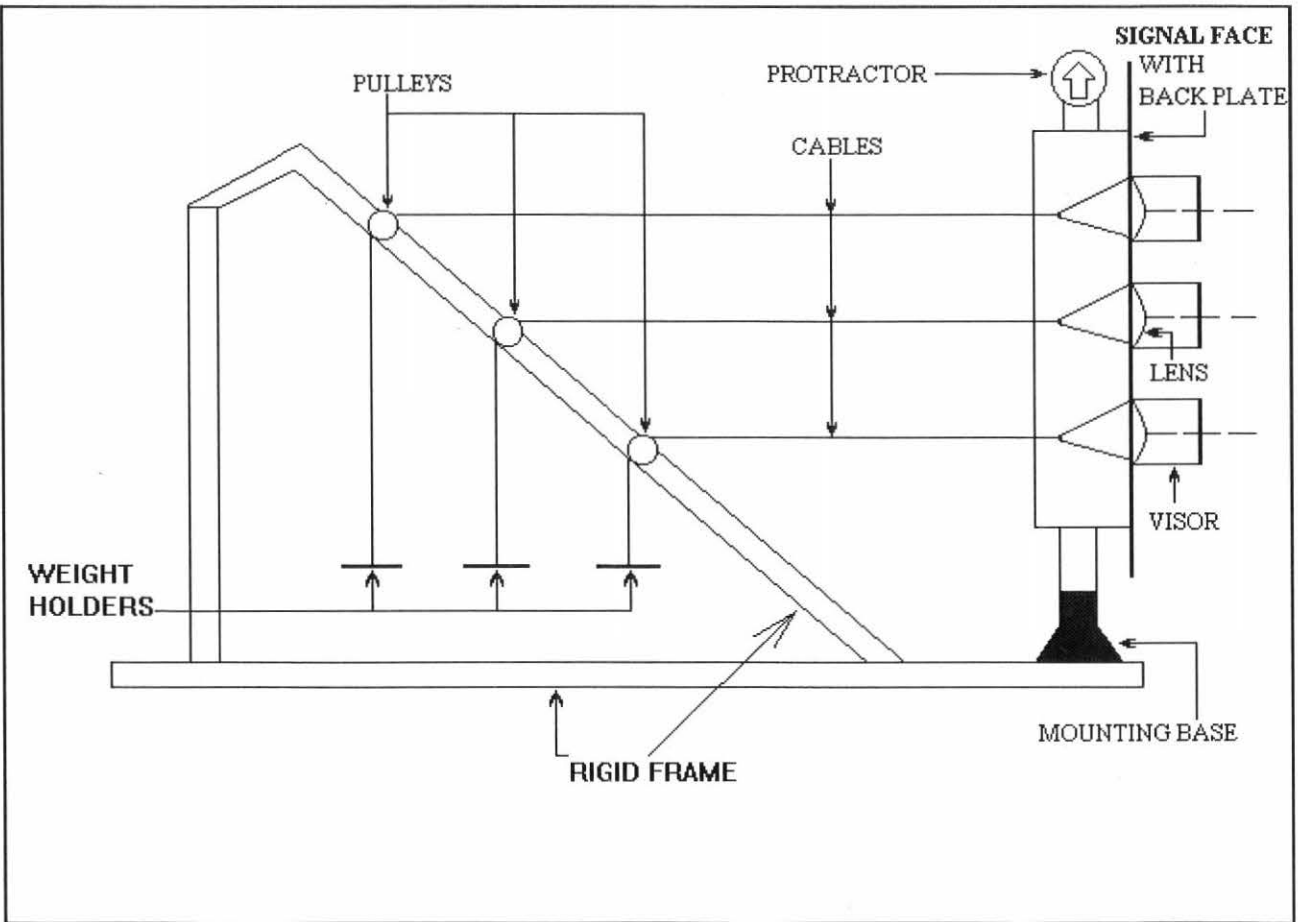
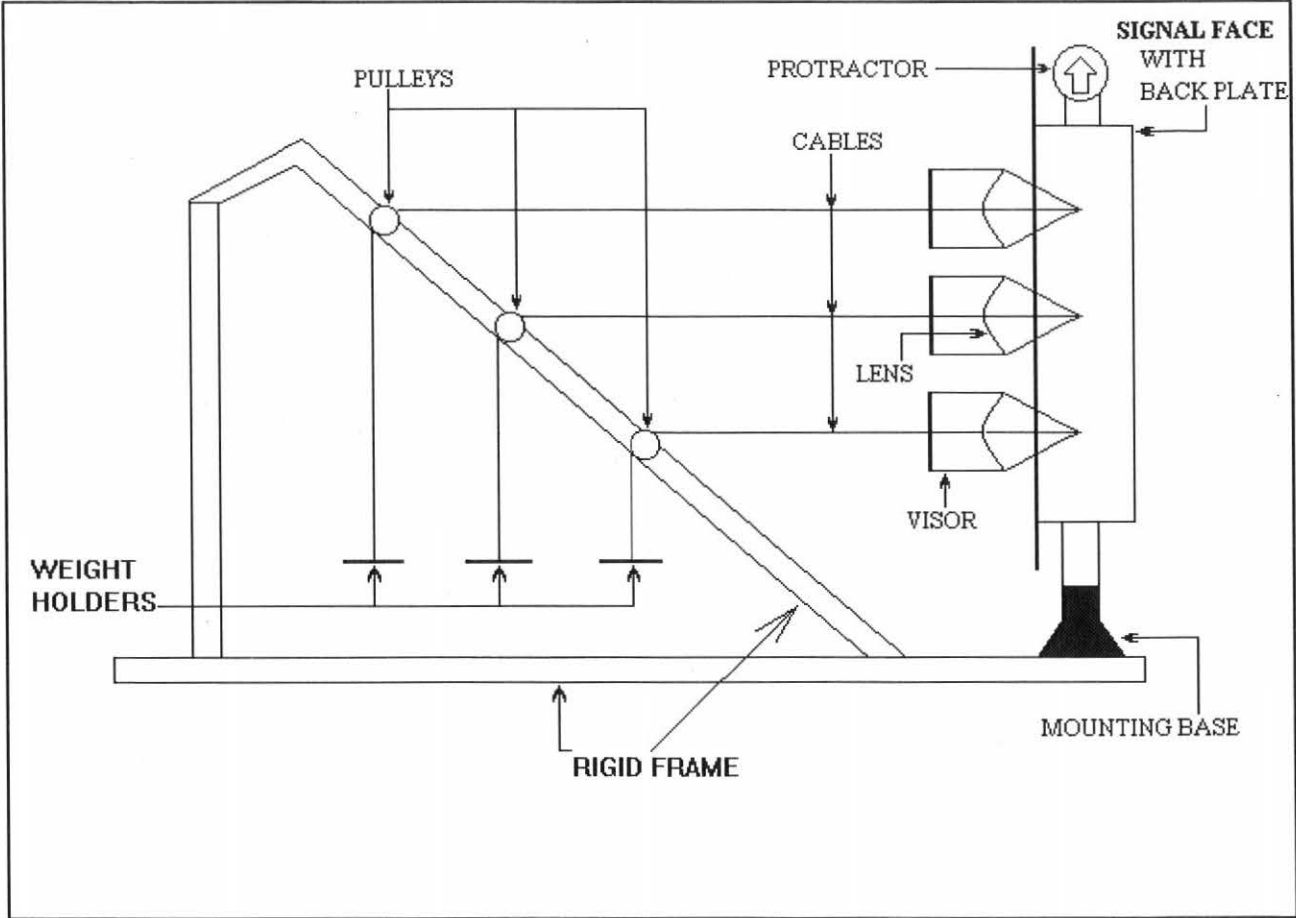

FIGURE 1. Loading Applied to Front of Signal Face
FIGURE 2. Loading Applied to Back of Signal Face
1. Mount the traffic signal face (complete with lenses, hoods, back plates and miscellaneous hardware) on a rigid frame for front loading as shown in Figure 1 and for back loading as shown in Figure 2.
3. Record the angle of deflection under the pre-load conditions (with weight-holders attached) and with the bubble protector attached to the top of the signal face as shown in Figures 1 and 2.
7. The permanent set shall be the difference in deflection between the pre-load conditions recorded under (3) and after the one-hour or 24-hour period recorded under (6) or (5).